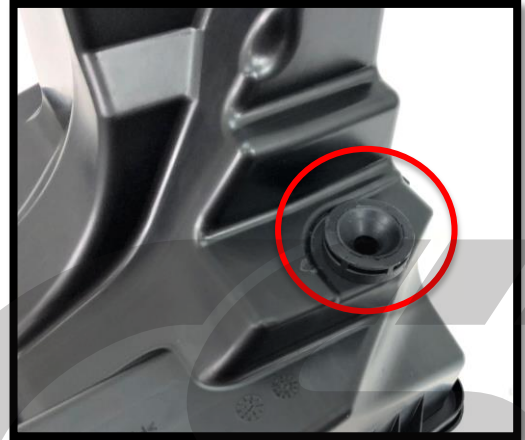

Figure 5e
- g) Remove the final rubber isolator from the bottom of the OEM airbox. **Circled in red** in **Figure 5e**.